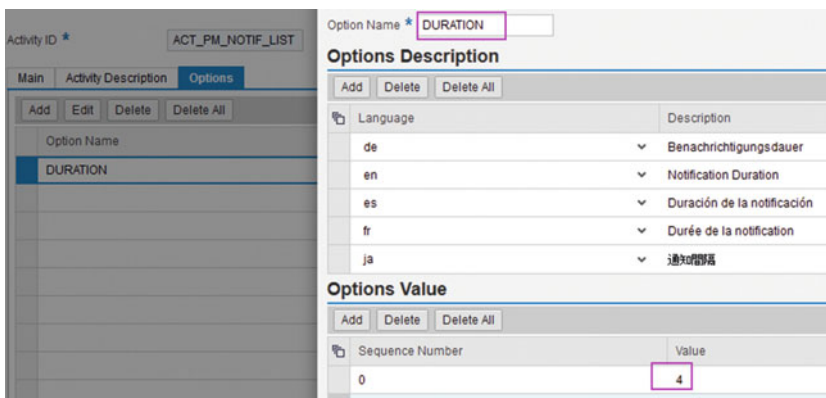

Figure 8-1. Activity configuration: Duration option: display PM notifications
2. ACT_PM_NOTIF_LIST: This is a new activity added for PM notification functionality. The standard OEE dashboard does not have this activity configured by default. You need to configure this activity in your custom dashboard to manage PM notifications. When creating a PM notification, the current shift is considered, and if there is no shift found, the system picks six hours prior to current time as the notification time, or you can overwrite by defining the duration in this activity under Option. i.e., When duration is defined as 4 hours, then the notification time is considered 4 hours past from the current time when no shift is found. Refer to Figure 8-1.